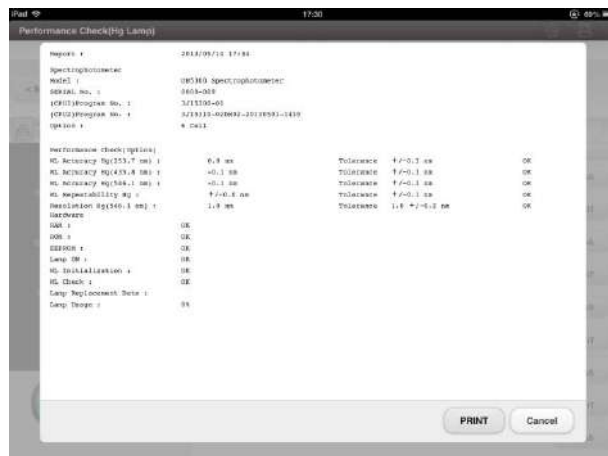

Fig. 6-39 Preview Screen
- (2) The Preview screen (Fig. 6-39) is displayed. Press the